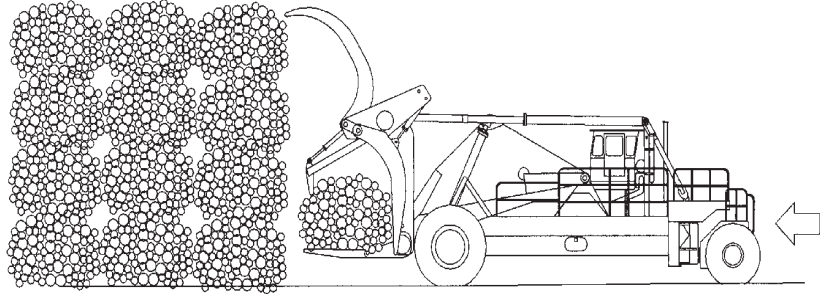

Fig. 5-20
1. When approaching the deck with a bundle, clamp the bundle with the auxiliary holddown arms and then raise the main holddown arms. This allows the bundle to be placed tightly against the others. See Fig. 5-20.